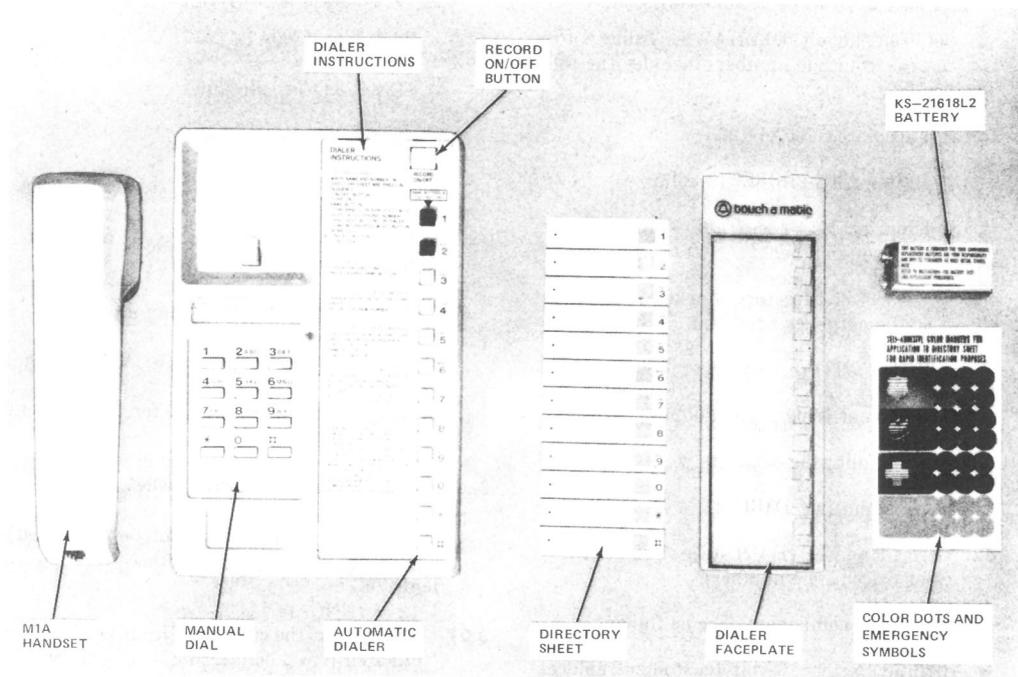

Fig. 2—5001T01A Telephone Set With Handset, Dialer Faceplate, Directory Sheet, and Battery, Removed
- Show 5001T01A-51 and 5001T01A-58 manufacture discontinued (MD) (Table A)
- Add emergency symbols (Fig. 2).
- (1) Remove the dialer faceplate by inserting fingernail into slot at top of faceplate, pull down slightly, and lift out.
- (2) Remove the directory sheet and write or type the desired name(s) and telephone number(s).
- (3) Momentarily depress the RECORD ON/OFF button (Fig. 2). (A constant tone will be heard.)
- (4) Momentarily depress the memory button adjacent to the desired name listed on the directory sheet. (A double interrupt of the tone will be heard.)
- (5) Manually dial the desired number using the digit designations to the right of the memory buttons on the dialer. (The tone will interrupt momentarily as each digit is recorded.) The manual dial key pad **cannot** be used to record a number into memory. A total of 16 digits can be recorded. When the sixteenth digit is recorded, the dialer will beep three (3) times and automatically end the recording procedure. If the dialer is inadvertently left in the record mode it will time out after 1-1/2 minutes, give three (3) beeps, and automatically reset.
- (6) Momentarily depress the RECORD ON/OFF BUTTON. [The tone will cease and the dialer will be ready either for automatic dialing or to record another telephone number into memory. Repeat Steps (3) through (6)].
- (7) Replace the faceplate after all numbers have been recorded.